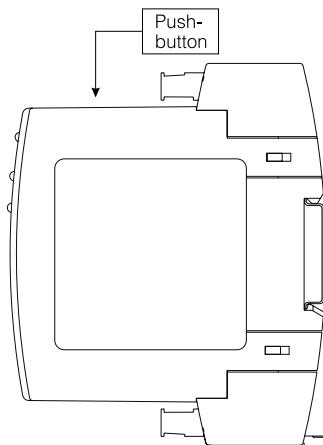

Fig. 4 Location of the push-button to configure the PD22 data concentrator
- press the push-button of the concentrator configuration (fig.4), until the green diode begins to flicker signaling the configuration mode.